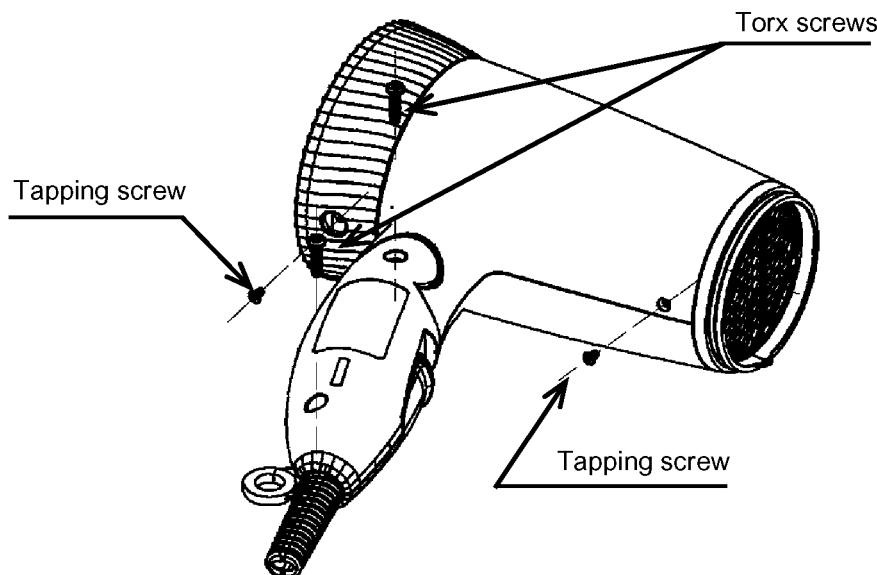

Figure 5
2. Remove tapping screws by Plus Driver and 2 torx screws by IEC driver as figure 5.